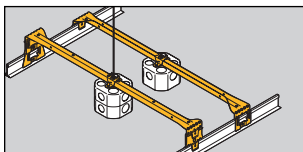

Figure 13 - BA50
(1) Framing Members. An enclosure shall be fastened to the framing members by mechanical means such as bolts, screws, or rivets, or by the use of clips or other securing means identified for use with the type of ceiling framing member(s) and enclosure(s) employed. . . . *(See Figure 13)*
(A) Maximum Luminaire (Fixture) Weight. Outlet boxes or fitting installed as required by 314.23 shall be permitted to support luminaries (lighting fixtures) weighing 23 kg (50 lbs.) or less. A luminaire (lighting fixture) that weighs more than 23 kg (50 lbs.) shall be supported independently of the outlet box unless the outlet box is listed for the weight to be supported. *(See Figure 13)*